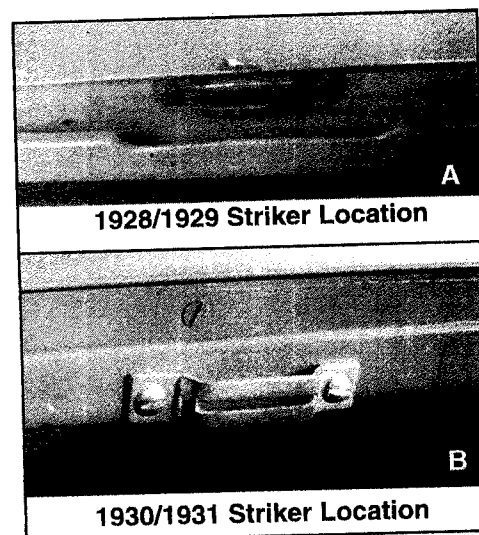

Figure 4-206 Striker Location
8. Install the Striker Plate at the front of the Rumble Lid (Deck) opening (Figure 4-206). All 1928 through 1931 Deck Lids (Rumble Seat Lid) and Trunk Lids are interchangeable. The Trunk Lid can be used as the Deck Lid by changing the location of the Latch. The latch on the 1928/1929 Deck Lid is located at the front edge of the Lid (Figure 4-207A). The striker plate is located just under the cowl lip (Figure 4-206A). The latch arm swings out from the front edge of the deck lid when the handle is in the closed position. If the deck lid handle is in the closed position when the deck lid is closed, the latch will hit the top edge of the cowl, just above the latch, possibly chipping the cowl paint. Ford recognized this problem and in 1930, reformed the inner skin on the Deck Lid that moved the handle and lock mechanism back away from the edge of the Lid (Figure 4-207B). The Striker plate for the 1930/1931 Deck Lid was repositioned to the front edge of the rain gutter (figure 4-206B) to prevent a closed latch from hitting the top cowl. When using a 1928/1929 Deck Lid, attach the striker plate as shown in Figure 4-206A. When using a 1930/1931 Deck Lid, attach the striker plate as shown in Figure 4-206B.